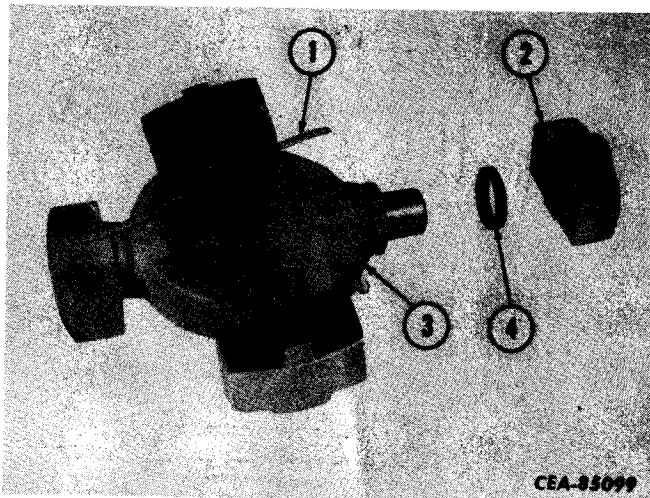

Figure 5-5
Cut strap (1, Fig. 5-5) that holds bearing assemblies (2) on spider (3). Remove grease seals (4) and bearing assemblies from spider.